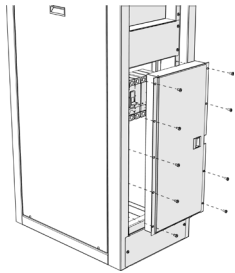

Figure 13. Deadfront
Step 1. Remove the deadfront panel by uninstalling the (9) #12-24 screws (see Figure 13).